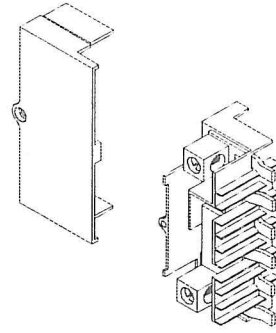

Figure 4
2. Insert tabs from jumper bars on SPK kit into circuit breakers, ensuring the tabs are fully inserted and the body of the SPK kit is positioned fully against the circuit breakers. Refer to Figure 4 for application of SPK kits.